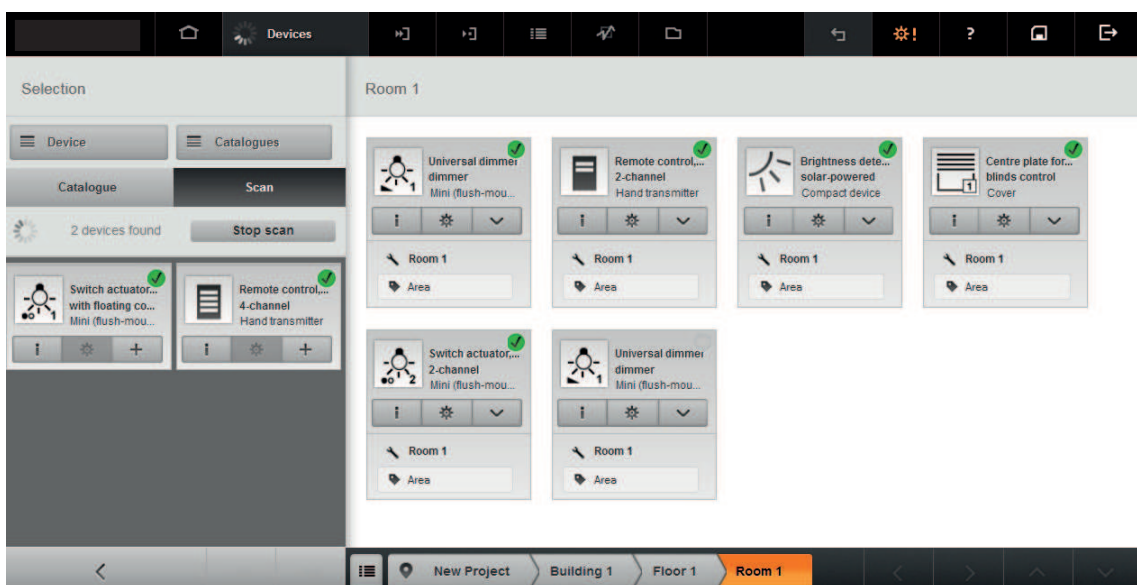

Figure 40: Devices view - Example system scan
The devices of a system are imported to the eNet server using a system scan and displayed in the device selection (Figure 40).
- Select the **Scan** tab (Figure 40).